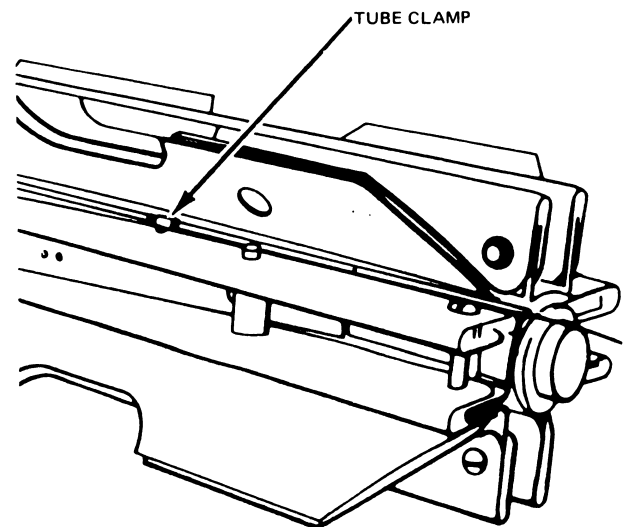

Figure 12-46.—Fin release wire guide tube and clamp installed (Mod 1 fin).
24. On the Mk 15 Mod 1 fin only, verify that the arming wire guide tube is secured to the fin with a clamp. (See figure 12-46.) Ensure that the tube aligns with the fin release wire holes in the release band lever. Insert the fin release wire through the guide tube, as shown in